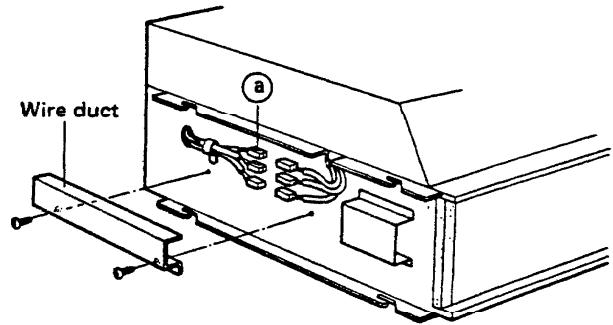

Fig. 17
- 3) Pull out the connectors ② of the heater. Fig. 17